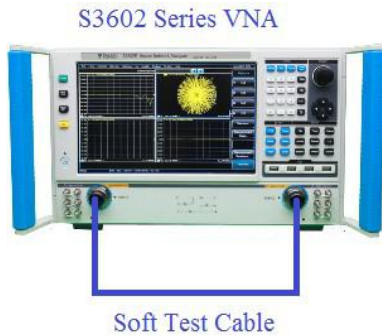

Fig. 11.10 Block Diagram I of Dynamic Range Calibration Test of System
- 15) As shown in Fig. 11.10, connect the system.